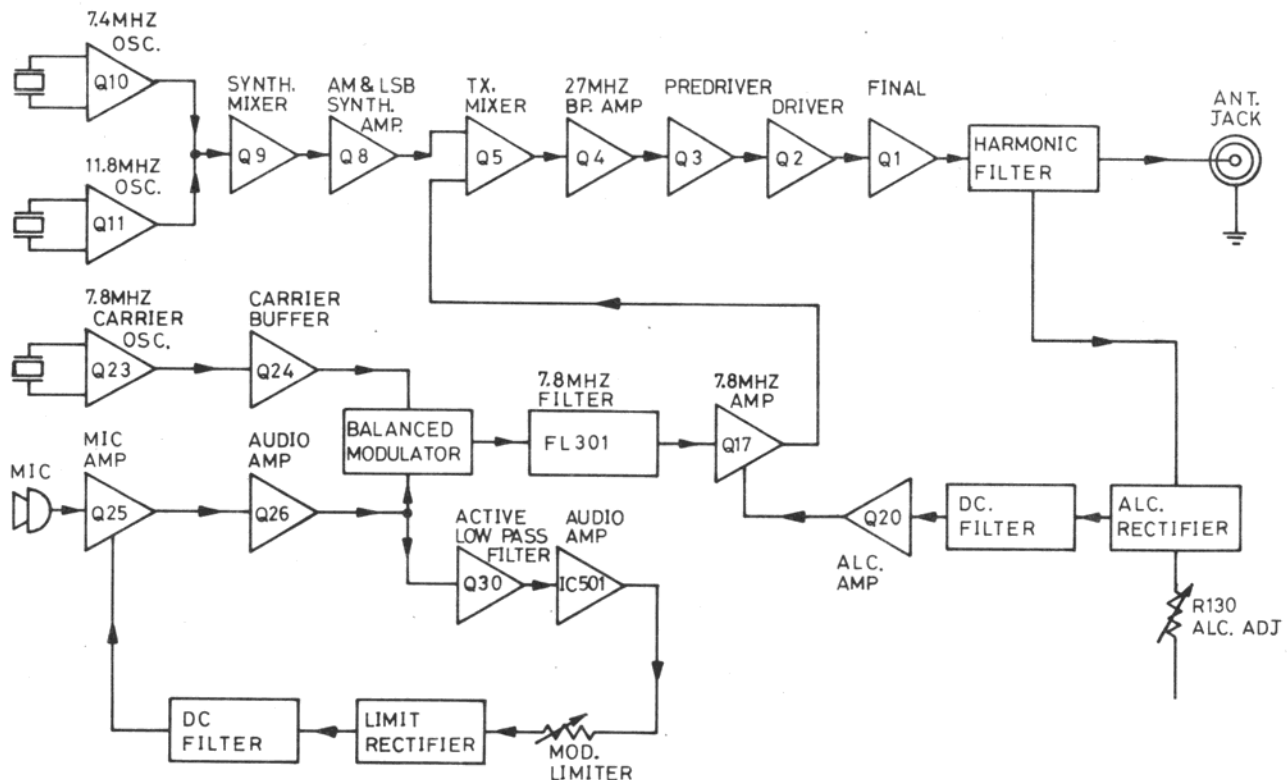

Figure 2-4 Lower Sideband Transmitter Block Diagram
2.4.1 Lower Sideband (LSB) Transmitter (Refer to Figure 2-4)